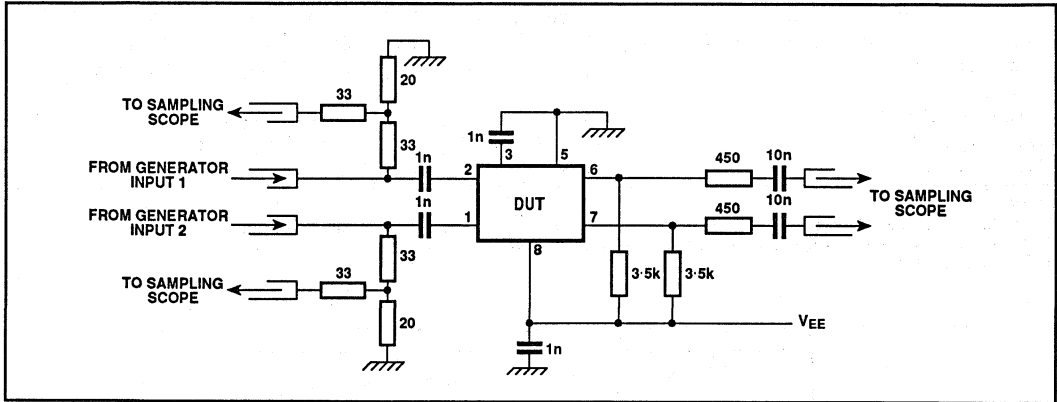

Fig. 5 Test circuit
2. The test configuration for dynamic testing is shown in Fig.5.